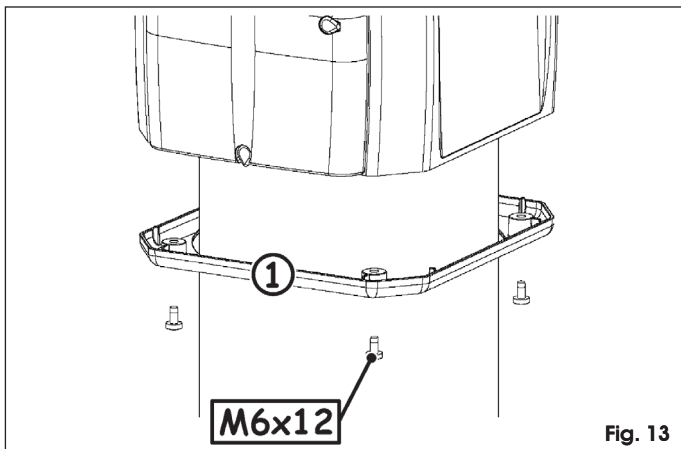

Fig. 13
11. Position the lower housing (Fig. 13 ref. ①) and secure it with the four supplied screws